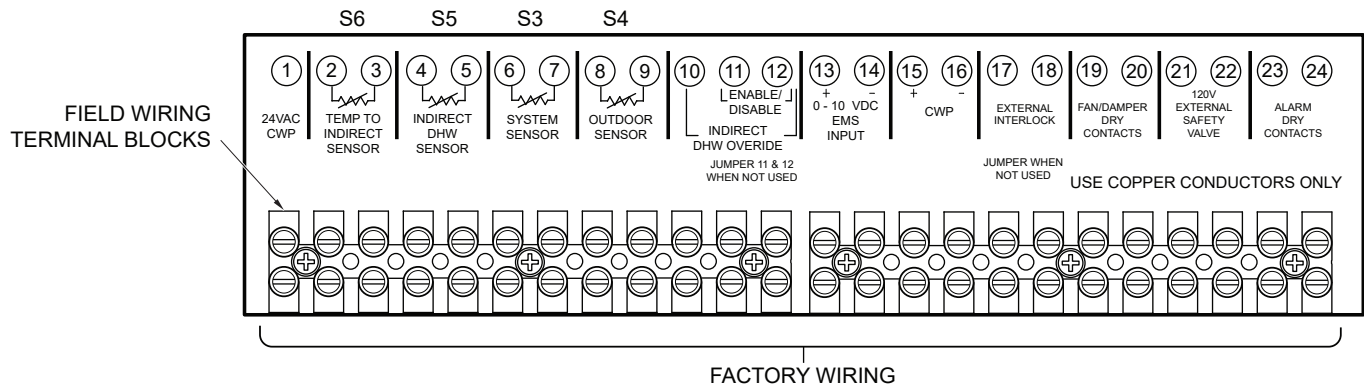

Figure 41. Low-Voltage Field Wiring
2. To enable this remote control function, set DIP switch 5 to the UP position on the PIM. DIP switch 5 Toggles between an EMS (UP) signal or a demand signal from the VERSA (DOWN). DIP switch 2 on the PIM toggles between a Direct Drive (UP) input and a Target Temperature (DOWN) setpoint.
4. Connect an Energy Management system or other auxiliary control signal to the terminals marked 0-10V (+/-) on the field wiring terminals. See **Figure 41**. Caution should be used to ensure that the +0-10V connection does not create a short to ground.
Connect the Enable/Disable (terminals 11, 12) wiring to the field wiring terminals as shown in **Figure 41** and in place of the factory installed jumper. Alternately, any dry contact closure (including a remote thermostat) across these terminals will enable the XVers boiler to run.
1. When using a System Sensor, connect the sensor wires to the terminals marked (6, 7) SYSTEM SENSOR. See **Figure 41**.
1. If using an Outdoor Air Sensor, connect the sensor wires to the terminals (8 & 9) marked OUTDOOR AIR SENSOR. See **Figure 41**.
Connect the indirect tank sensor to the terminals (4 & 5) marked INDIRECT DHW SENSOR. See Figure 41. Caution should be used to ensure neither of these terminals becomes connected to ground. When using an indirect DHW Sensor to control tank temperature, contact closure is required across the indirect override connections for proper operation.
The S6 sensor is used in mode 3 only. Connect the S6 sensor to terminals (2 & 3Z) marked TEMP TO INDIRECT SENSOR. See Figure 41. Caution should be used to ensure neither of these terminals becomes connected to ground.
2. Connect the system supply sensor to terminals 6 and 7 on the field wiring strip located on the Master boiler. See **Figure 41**.
3. Connect the Outdoor sensor (if used) to terminals 8 and 9 on the field wiring strip located on the Master boiler. See **Figure 41**.
4. Connect the Enable/Disable wiring to terminals 11 and 12 on the field wiring strip located on the Master boiler. This connection must be provided through dry contacts closure. See **Figure 41**. Applying 24VAC to these terminals will result in blowing the fuse on PIM.